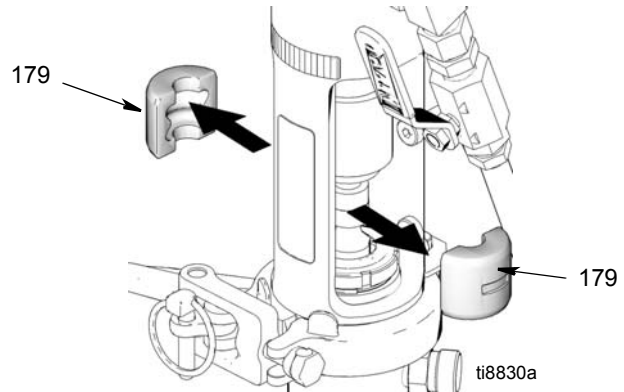

FIG. 16
- 6 (Fig. 16) Remove rod couplers (179).